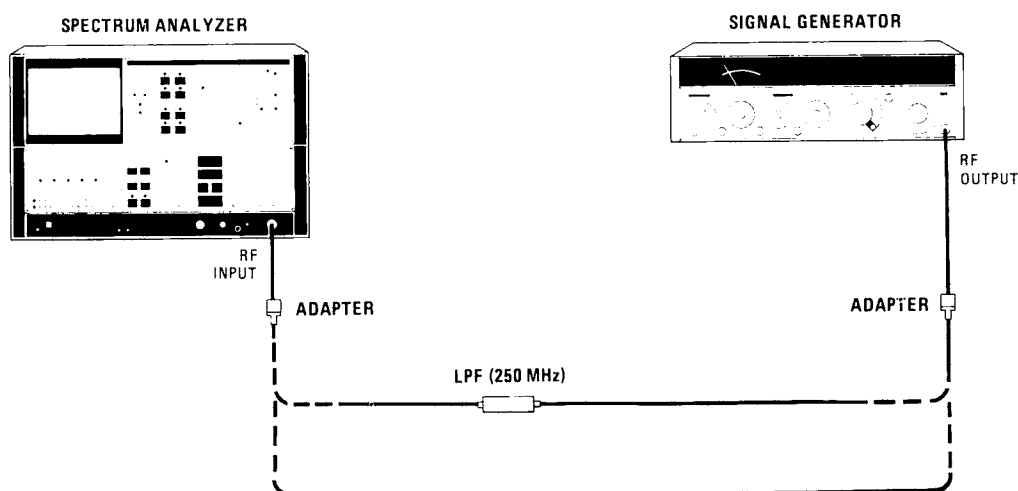

Figure 4-36. Harmonic Distortion Test Setup (100 Hz to 2.5 GHz)
Equipment listed is for three test setups, Figures 4-36, 4-37, and 4-38.
3. Connect equipment as shown in Figure 4-36, using the 250 MHz low-pass filter. Adjust generator output level to place peak of signal trace at the reference level line.